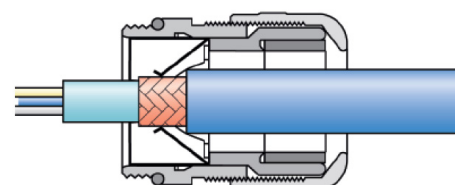

Figure 30: Cable entry
3. The cable entry should be done as shown in Figure 30.